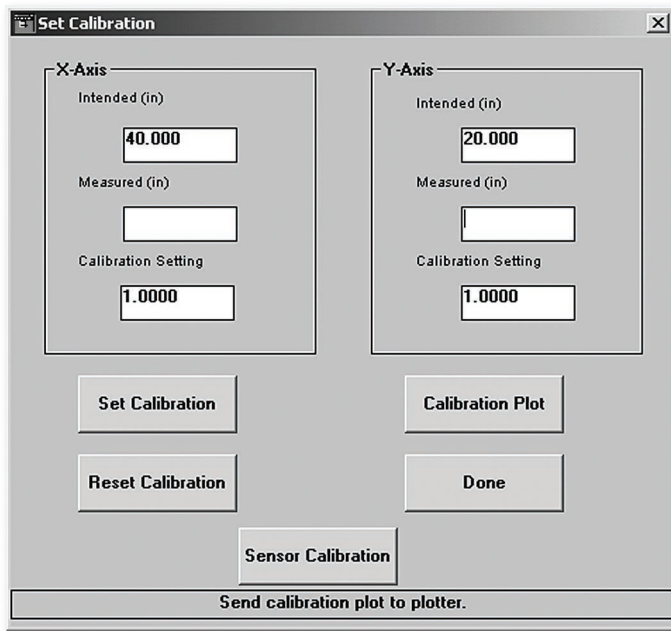

Figure 36. The **Control Center Calibration** window.
2. In the **Menu Bar**, choose *Calibrate>Calibrate Plotter...* (*Figure 36*.)